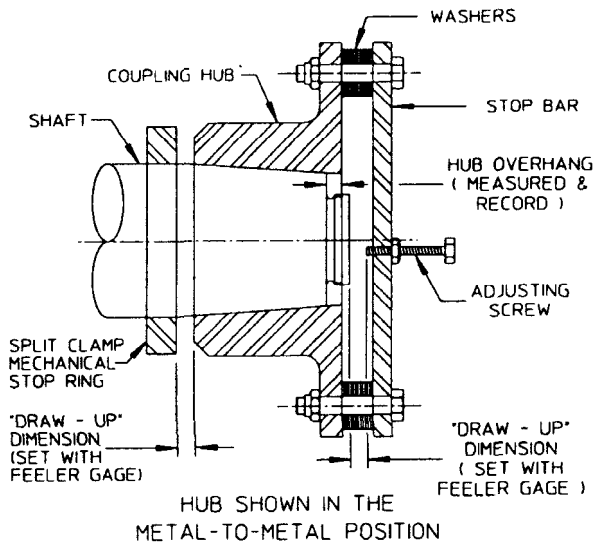
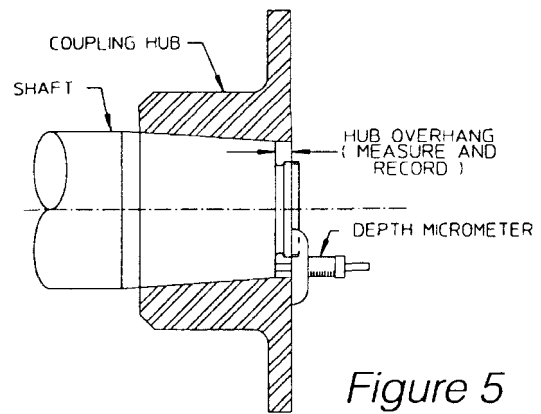

Figure 4
Figure 5
necessary, use a very large rose bud tip to give even heat distribution. A thermal heat stick will help determine hub temperature. **DO NOT SPOT HEAT THE HUB OR DISTORTION MAY OCCUR.** With the hub expanded, slide it quickly up the shaft to the desired axial position. A pre-set axial stop device can be helpful. See figure 4.
2. Taper Bore with Key(s). Put the hub on the shaft without key(s) in place. Lightly tap hub with a soft hammer. This will assure a metal-to-metal fit between shaft and hub. This is the starting point for the axial draw. Record this position, between shaft end and hub face, with a depth micrometer. See figure 5. Mount a dial indicator to read axial movement of the hub. Set the indicator to "0". Remove hub and install key(s). Remount hub, drawing it up the shaft to the desired position on the shaft. The hub may have to be heated in order to reach this position. **DO NOT SPOT HEAT THE HUB OR DISTORTION MAY OCCUR.** Use the indicator as a guide only. A pre-set axial stop device can be helpful. See figure 4. Check the final results with depth micrometer. Install shaft locknut to hold hub in place.